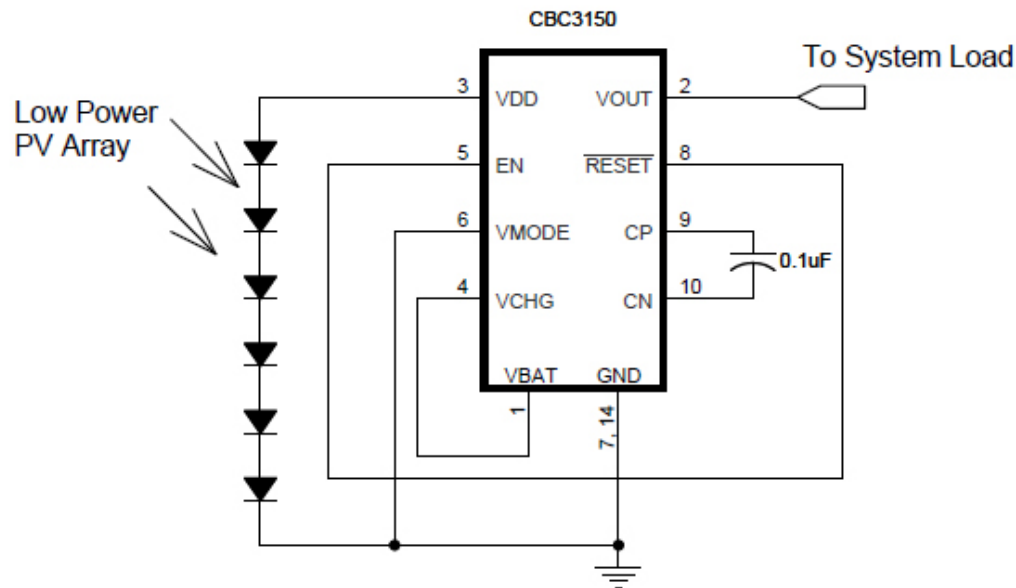

Figure 13: Implementing Energy Harvesting with the EnerChip CC
The EnerChip CC can be configured to collect energy from transducers such as low power photovoltaic (PV) cells and use that harvested energy to charge the integrated EnerChip and deliver self-sustaining power to components such as microcontrollers, sensors, and radios in wireless systems. The schematic of Figure 13 illustrates the feedback connection made from RESET to EN to implement the energy harvesting function with the CBC3150. In order to make most efficient use of the power available from the transducer (for example, a PV cell), it is necessary to know the electrical characteristics including voltage and peak power point of the transducer being used. For assistance in designing your system to effectively harvest energy from a power transducer in a specific environment, contact Cymbet Applications Engineering.